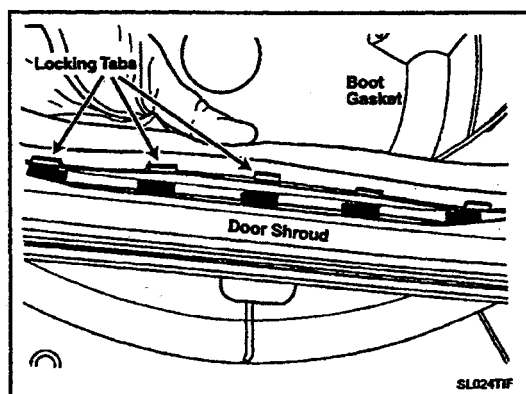

Figure 2-37
6. Unsnap the locking tabs of the door boot around the inside perimeter of the door shroud (*Figure 2-37*).